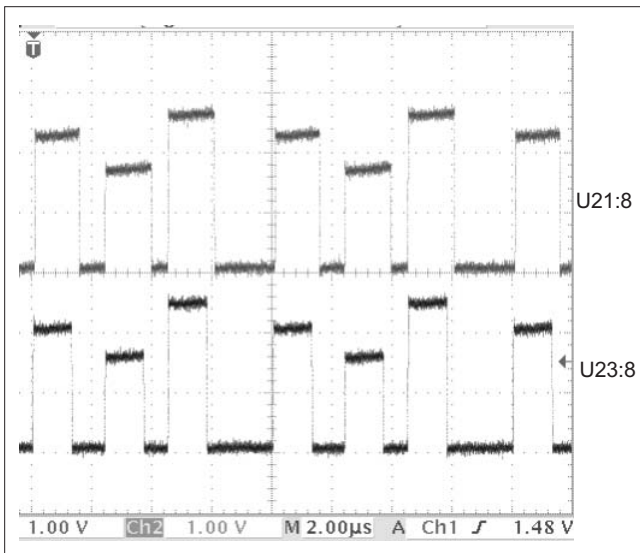

**Figure 6-49** ADC 10461 behavior. Time A-A, 10 MHz in.
Change the measurement function to Time Interval A - A. Select Statistics Mode. Check that the standard deviation is less than 100 ps. Measure at pin 8 of the ADCs U23, U22, U21 and U20. Two types are current, ADC10461 and ADC1061. See Figure 6-49 for a typical timing diagram with ADC10461. Figure 6-50 shows an example with ADC1061. Check the upper (TP3) and lower (TP4) voltage limits of the ADCs. They should be approximately 3.5 - 3.6 V and 1.1 - 1.4 V. The important thing is that the lowest voltage pulse on any
**Note** The interpolator design has varied slightly in the course of time, but the pulses in Figures 6-49 and 6-50 are very little affected.